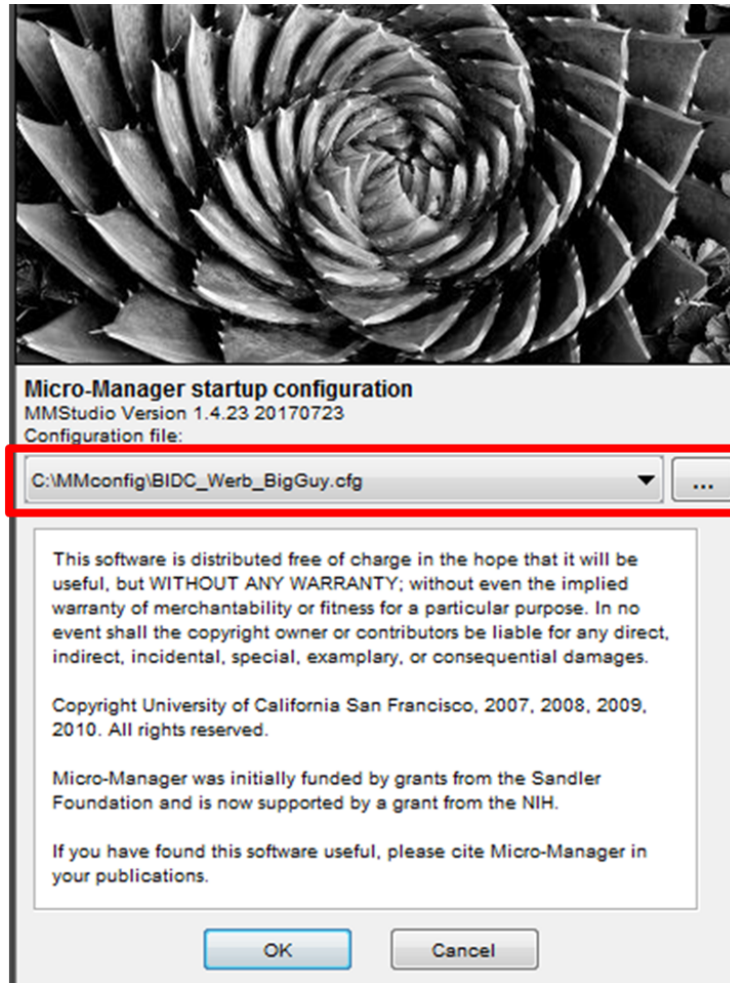

Figure 3: Choose the proper configuration file from the drop down menu.
2. Upon start-up, select the configuration file. See Figure:3